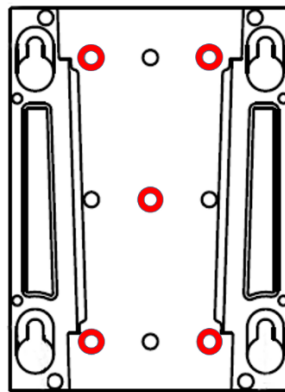

Figure 5-2: Mounting Bracket with Mounting Screw Holes Highlighted in Red
2. Using the bracket as a template, mark the five locations for the wall anchoring system screws, Figure 5-2.